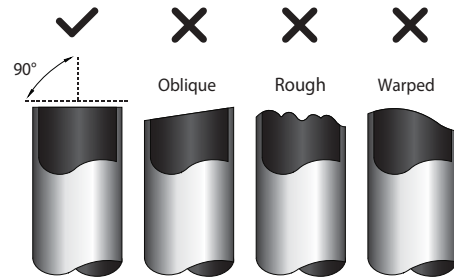

Fig. 7.5
1. Make sure that the pipe is cut at a perfect 90° angle. Refer to Fig. 7.5 for examples of bad cuts